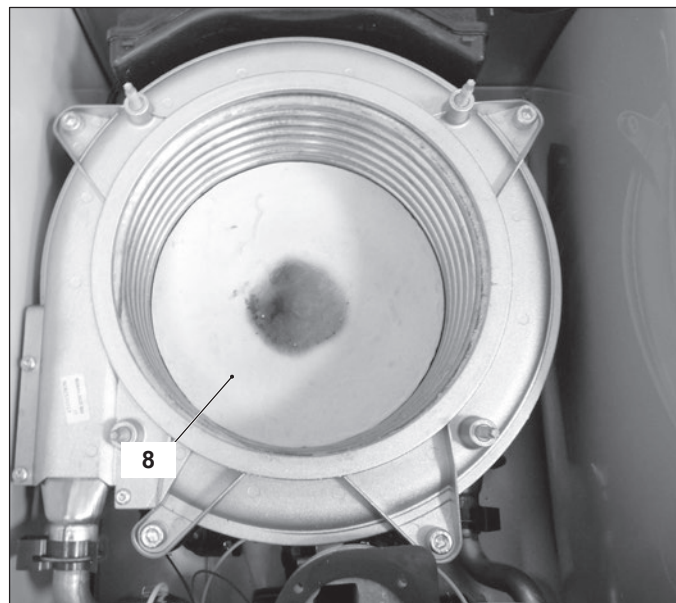

Figure 15.5
- 2 Remove the insulation "8" by pulling it towards the boiler front (Hung it with a screwdriver tip) (Figure 15.5).